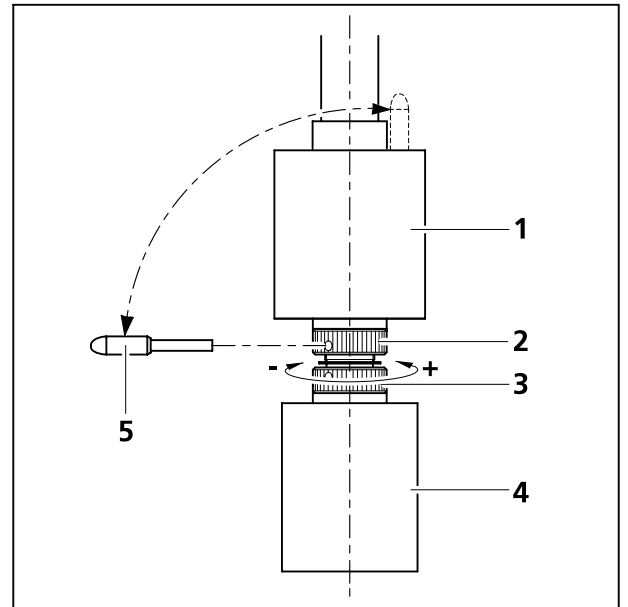

Fig. 3-14 Adjusting the frictional momentum
The drive length of the X- and Y-drive can be adjusted by an axial shift of the gear knob (Fig. 3-14/4 and 1) within a range of approx. 15 mm.
- Slide the gear knob for the X-adjustment (Fig. 3-14/4) all the way down.
- Take the enclosed adjustment pin (Fig. 3-14/5) out of the gear knob for the Y-adjustment (Fig. 3-14/1) and stick it into one of the holes on the lower hole nut (Fig. 3-14/3).
- Hold the gear knob for the X- adjustment (Fig. 3-14/4) and turn the hole nut with the adjustment pin clockwise (smaller friction momentum: **-**) or counter clockwise (larger friction momentum: **+**) until you reach the desired friction degree (see Fig. 3-14).
- Slide the gear knob for the Y-adjustment (Fig. 3-14/1) all the way up.
- Stick the enclosed adjustment pin (Fig. 3-14/5) into the hole on the upper hole nut (Fig. 3-14/2).
- Hold the gear knob for the Y-adjustment (Fig. 3-14/1) and turn the hole nut with the adjustment pin clockwise (smaller friction momentum: **-**) or counter clockwise (larger friction momentum: **+**) until you reach the desired friction degree.
- Replace the adjustment pin in the gear knob for the Y-adjustment (Fig. 3-14/1).